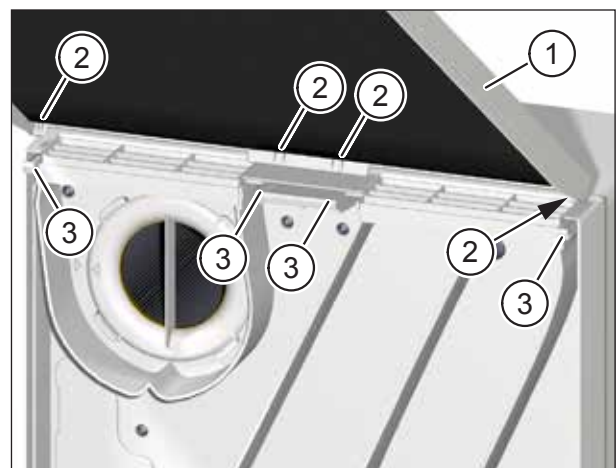

Fig. 19: Attaching the unit cover to the ventilation unit
- ▶ Hold the cover (item 1 in Fig. 19) of the ventilation unit with both hands and tilt the top edge of the cover towards the ventilation unit.
- ▶ Insert the tabs (item 2 in Fig. 19) of the unit cover into the retainers (item 3 in Fig. 19) on the top of the ventilation unit.